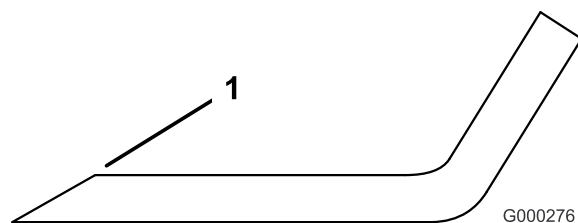

Figure 73
1. Sharpen the cutting edge at both ends of the blade (Figure 73). Maintain the original angle. The blade retains its balance if the same amount of material is removed from both cutting edges.